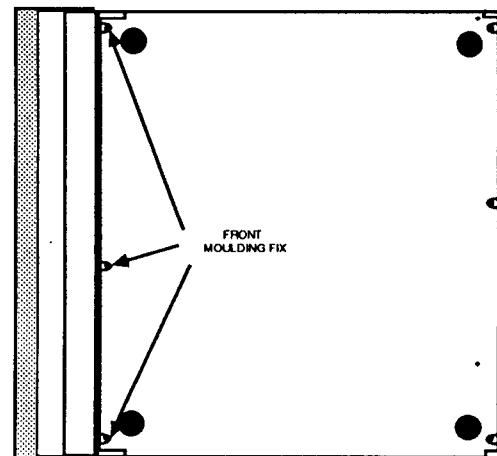

FIG. 2 REMOVING FRONT MOULDING ASSEMBLY
4. Remove the two screws securing the front moulding assembly at each side. Stand the unit on one side and remove the three screws securing the front moulding assembly to the base metalwork (see fig. 2).